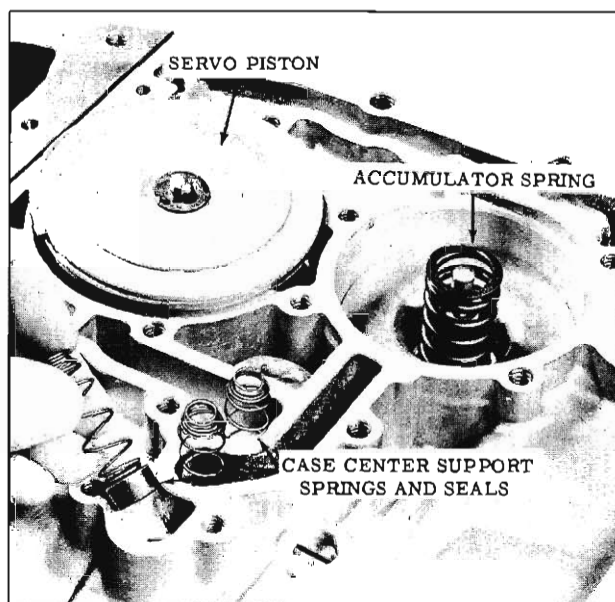

Fig. 6-118 Installing Seals and Springs
10. Install three case support to case seals and springs (seals down). (Fig. 6-118)